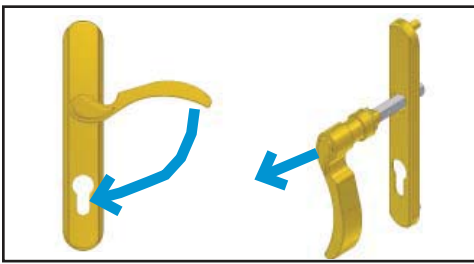

Figure 3
1. Remove handles from trim plates by rotating handle until it is pointing toward the bottom of the trim plate, and then pull the handle away from the trim plate. (Figure 3)